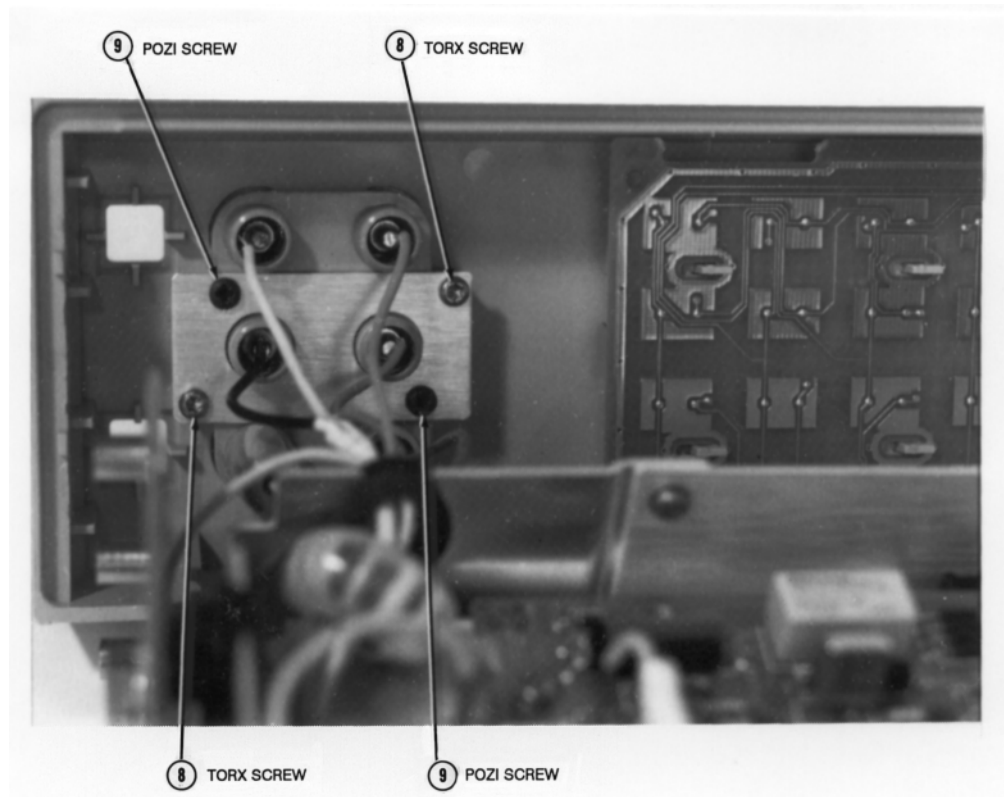

Figure 24. Remove/Install Screws on Front Terminals
11. Refer to Figure 24. Use the #TX10 Torx driver to remove the two Torx screws from the front terminals. Then use a #1 Pozidriv screwdriver to remove the two Pozidriv screws from the front terminals. This removes the front terminals from the Front Panel assembly.
6. Refer to Figure 24. Use the #TX10 Torx driver to install the two Torx screws on the front terminals. Then use a #1 Pozidriv screwdriver to install the two Pozidriv screws on the front terminals.